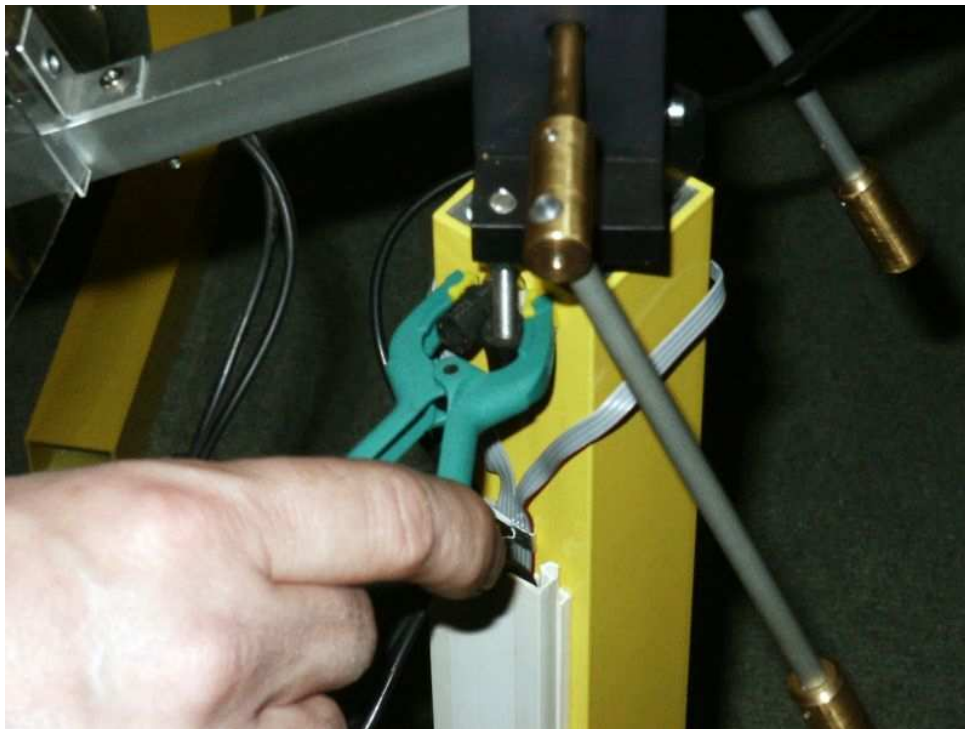
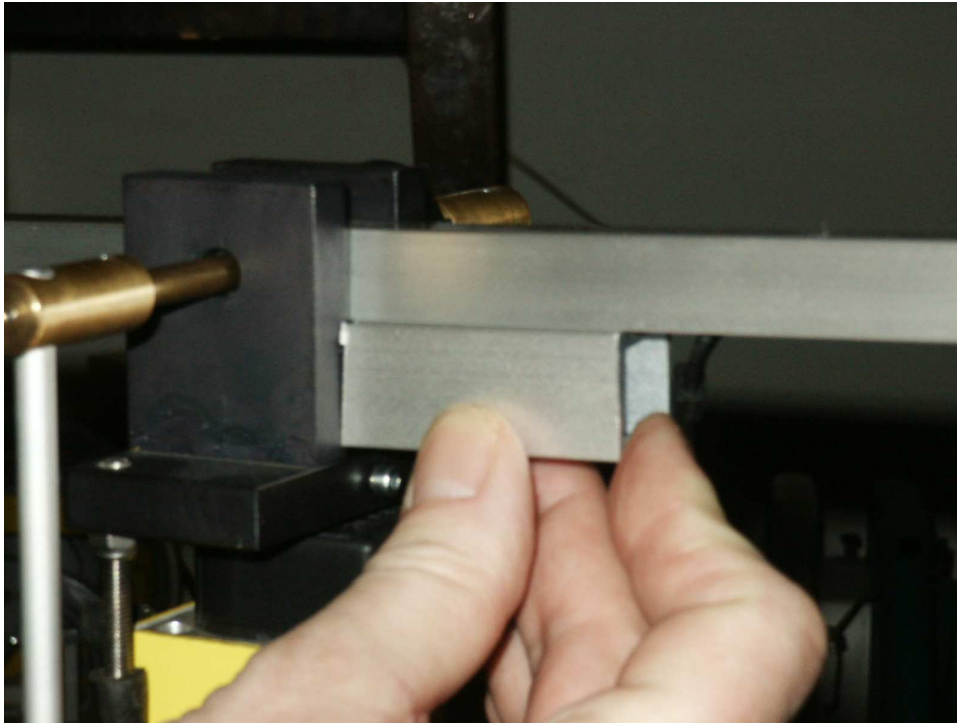

Fig. 8.1 Fixing one degree of freedom
Fig.8.2 Fixing bar
- According to your selection (1-degree or 2-degrees of freedom experiment) fix one of axis using the included clamp or fixing bar (Fig.8.1, Fig.8.2)